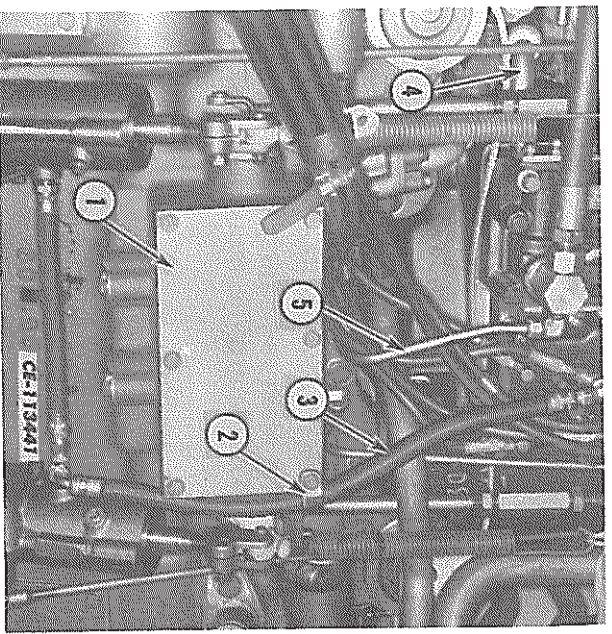

FIG. 8 — Disconnecting the Steering Booster Hose
- ing booster hose (3, Fig. 8) at the steering booster and remove the booster hose clamp (2) from the forward mounting bolt of the rear main cover inspection cover (1).
11. Disconnect the steering booster hose (3, Fig. 8) at the range selector valve "M" port (earlier models disconnect at the transmission) and remove the hose.
12. Disconnect the main regulating valve drain hose (4, Fig. 8) at the transmission case and remove the hose.
13. Disconnect the pivot brake oil cooling tube (5, Fig. 8) at the rear main frame and at the main regulating valve. Remove the tube.